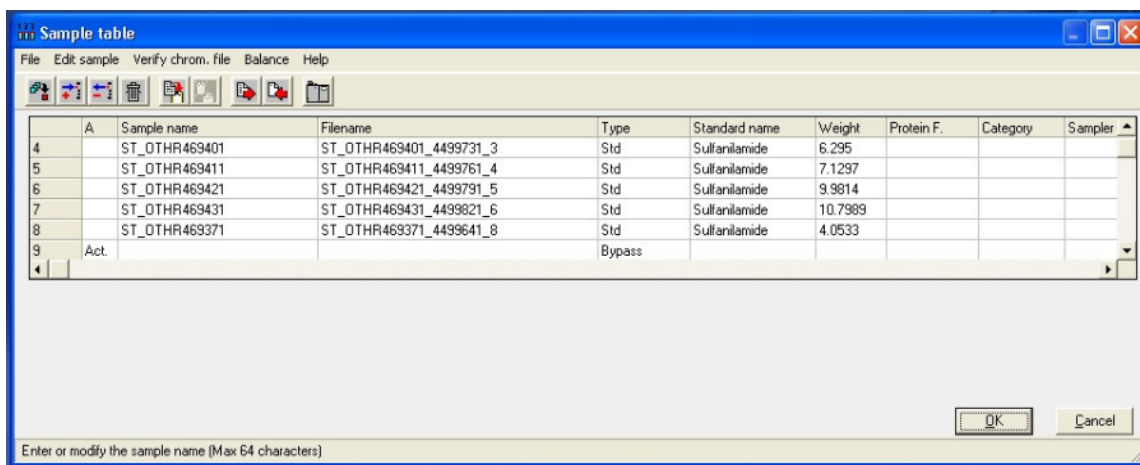

Figure 12. Sample Table.
1. On the *CHNS* screen, select **Edit > Sample table** (*Figure 12, below*). Clear the sample table and create two new rows.